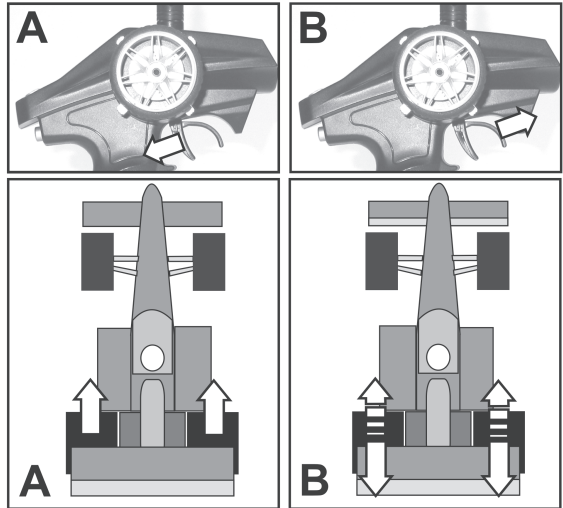

Figure 15
When you move the operating lever for the drive function (see figure 1, item 4) towards the handle to the stop, the model must accelerate (see figure 15, sketch A).
If you press the operating lever forwards, the model must decelerate or switch to reverse driving (see figure 15, sketch B).